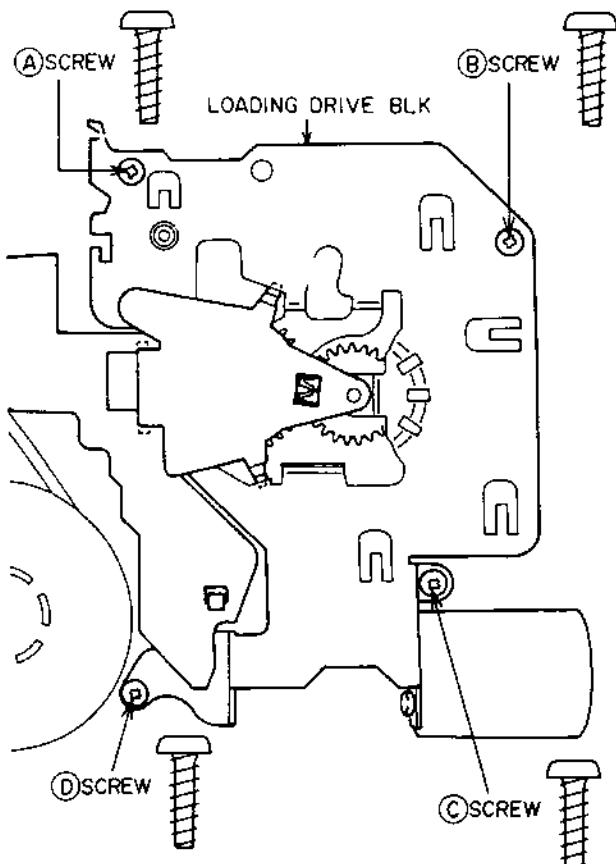

Fig. 4-7
- 3) Remove the Ⓐ, Ⓑ, Ⓒ, and Ⓓ screws, then remove the LOADING DRIVE BLK as shown in Fig.4-7.